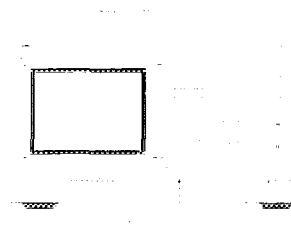

Figure 3-6. Mismatch Device Verification Setup
- 21 Connect the verification mismatch as shown in Figure 3-6. Notice that port B of the verification mismatch is now connected to the reference test port 1.